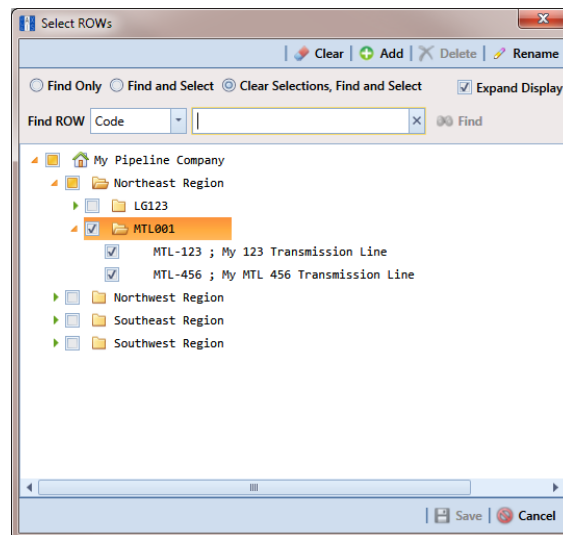

Figure 10-12. Select ROWs
- 1 Select one or more pipeline segments in the *Select ROWs* window. Choose pipeline segment(s) with facilities you want to include in the Bridge definition. Click  **Save** to close the window (Figure 10-12).